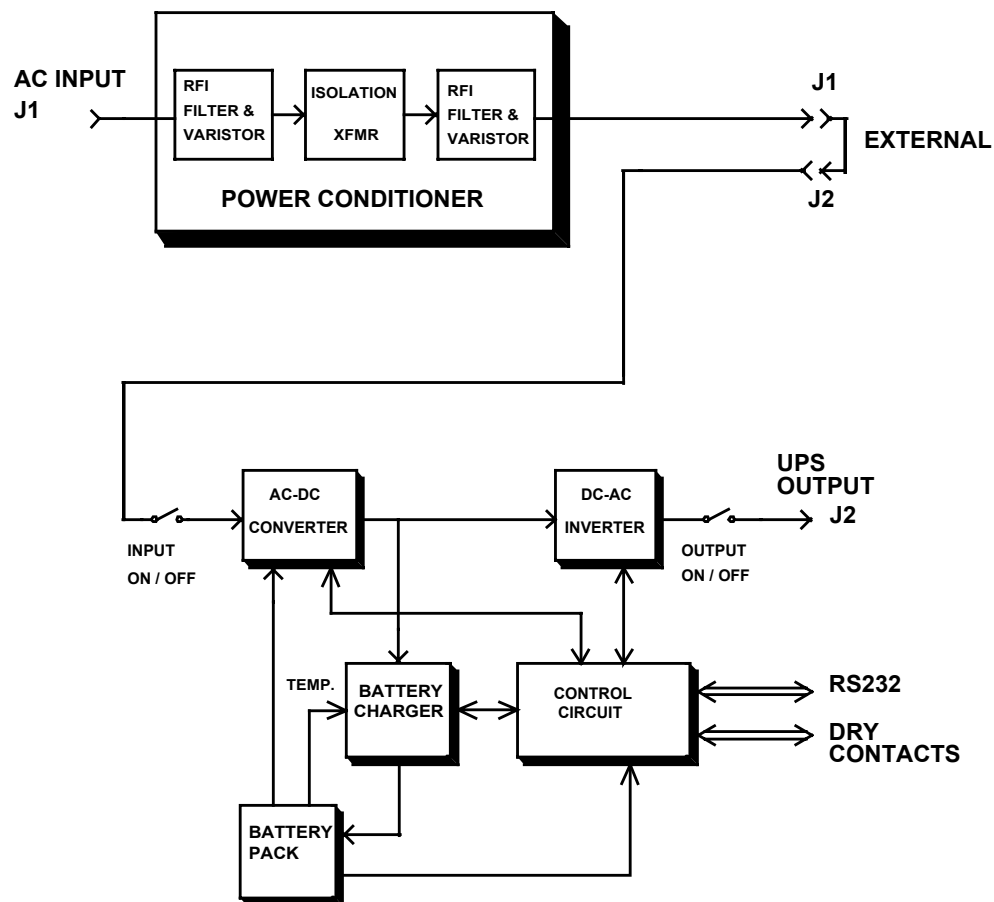
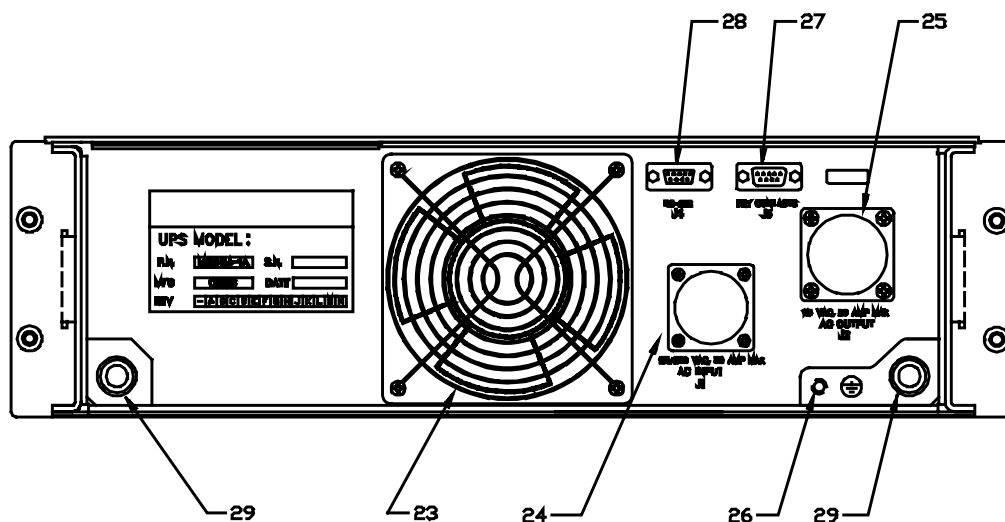

Figure 1 - PTC-0120BA-1A Block Diagram
Figure 6 - Rear Panel
The PTC-0120BA-1A consists of two main sections: Power Conditioner and UPS (see Fig. 1).
Two circular connectors (J1 and J2) are provided on the rear panel of the UPS (see Figure 6). J1 is the input connector to the Power Conditioner section of the unit. J2 carries the output of the Power Conditioner and both input and output of the UPS section. (Please refer to Fig. 1 for the definitions of the Power Conditioner and the UPS sections.)
5. Rear Panel Description (See Figure 6)